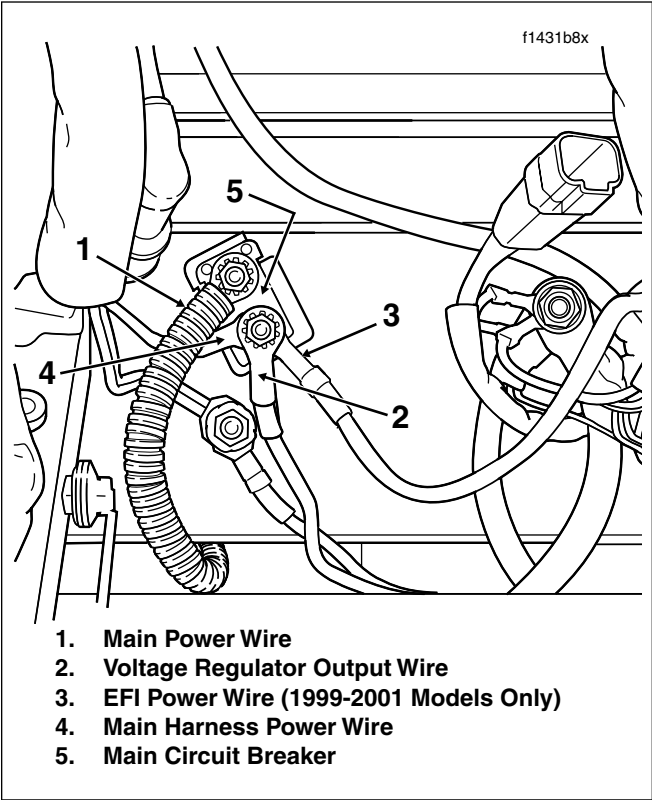

Figure 1. Upper Frame Crossmember (Under Seat)
- 5. Locate main circuit breaker on left side of upper frame crossmember. See Figure 1.
- 1. Install **new** 50 amp main circuit breaker into mounting clip oriented with the copper post topside. See Figure 1.